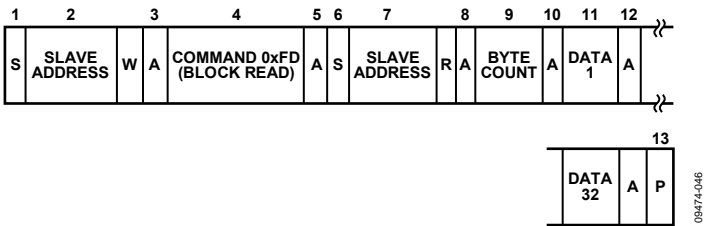

Figure 35. Block Read from the EEPROM or RAM
13. The master asserts a stop condition on SDA to end the transaction. See Figure 35.